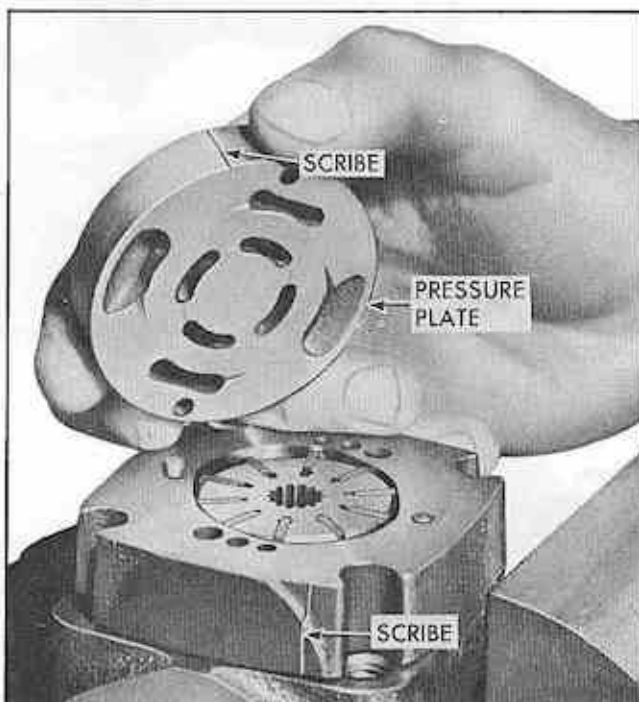

Fig. 97 Removing Pressure Plate
8. Mark position of pressure plate and remove plate from dowel pins (Fig. 97).